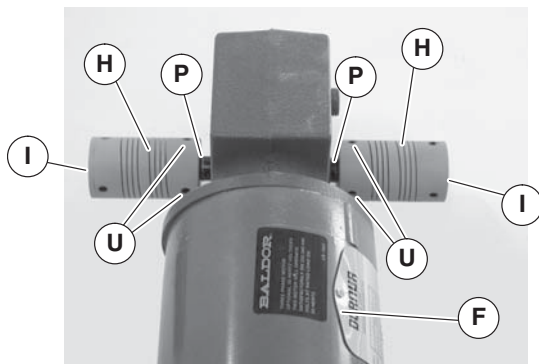

Figure 14
4. Install key (Figure 14, item I) in gear reducer shaft (P).
5. Attach flex couplings (Figure 14, item H) to gearmotor shaft (P). Tighten set screws (U).